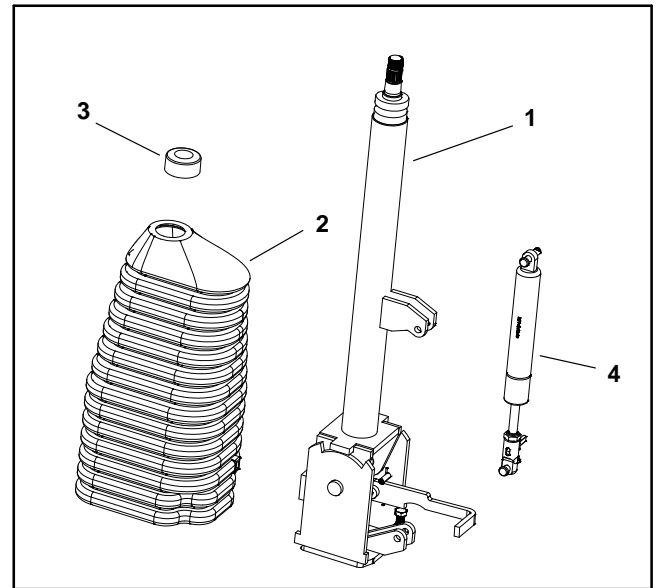

Figure 42
7. Loosen and remove three (3) flange head screws (item 13) and one (1) socket head screw (item 12) that secure steering column to steering control valve. Note location of socket head screw for assembly purposes.
9. Disassemble steering column assembly as needed using Figure 42 as a guide.